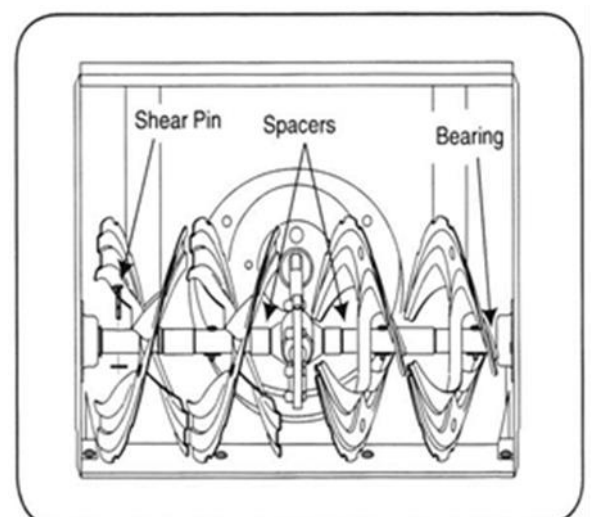

Figure 16
- The auger are secured to the spiral shaft with two shear pins and cotter pins. If the auger should strike a foreign object or ice jam, the snow thrower is designed so that the pins may shear. See Figure 16.